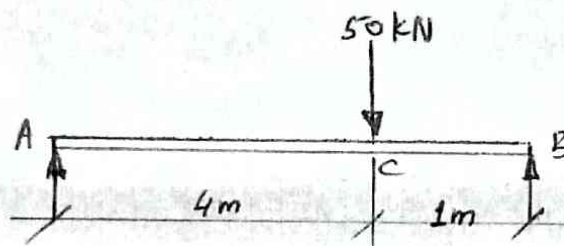

Figure No. 1
- Q4. A beam AB of 5m span is simply supported at the ends and is loaded as shown in Figure No.1. Determine the maximum deflection in the beam using Macaulay's Method. Take  $E = 210 \times 10^6 \text{ kN/m}^2$  and  $I = 20 \times 10^{-6} \text{ m}^4$ .